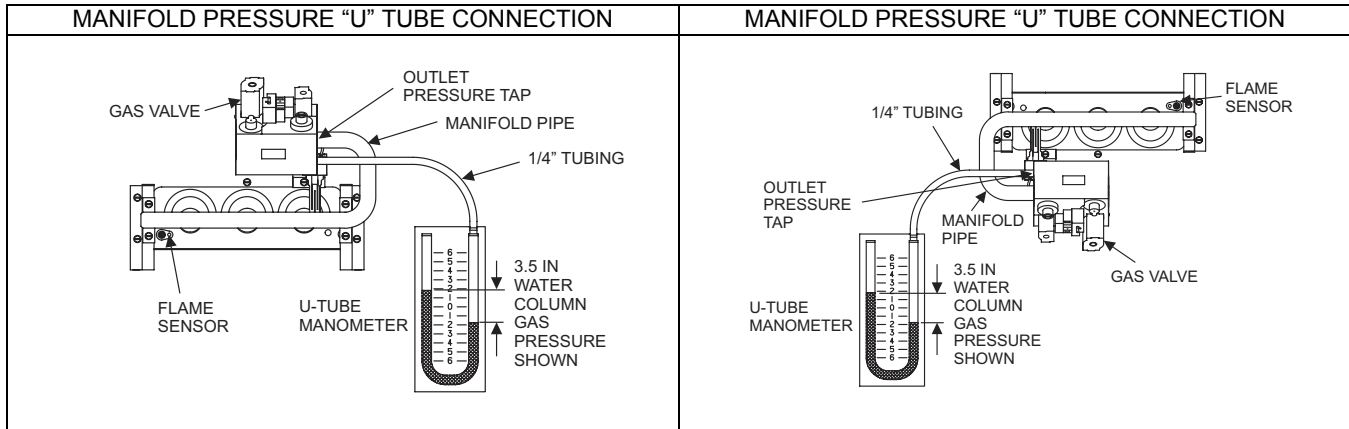

FIGURE 4 Reading Gas Pressure
4. Use the 4" (10.2 cm) piece of 1/8" (0.3 cm) tubing to connect the positive side of the manometer to the gas valve pressure reference port. Refer to Figure 4 for connection details.